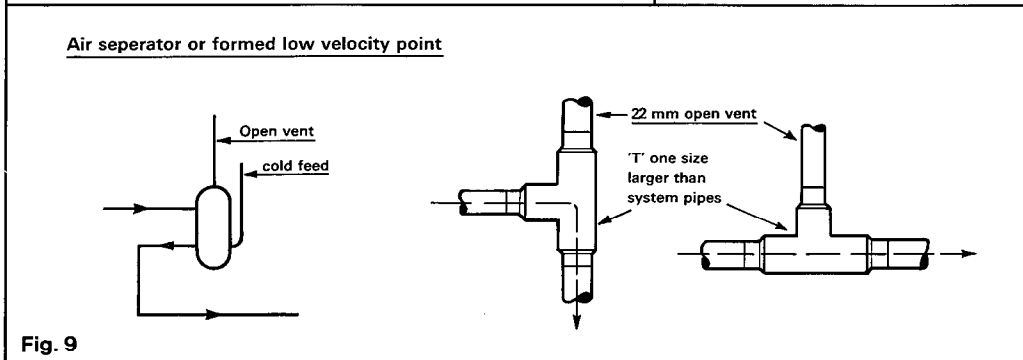

Fig. 9
Chaffoteaux Limited strongly recommend the inclusion of a British Gas accepted automatic air separator in the system as shown in fig. 9.
It should not be entered horizontally into the system pipework. The use of an enlarged T to create a low velocity point is recommended. The preferred arrangement is shown in fig. 9.
4. See fig. 9